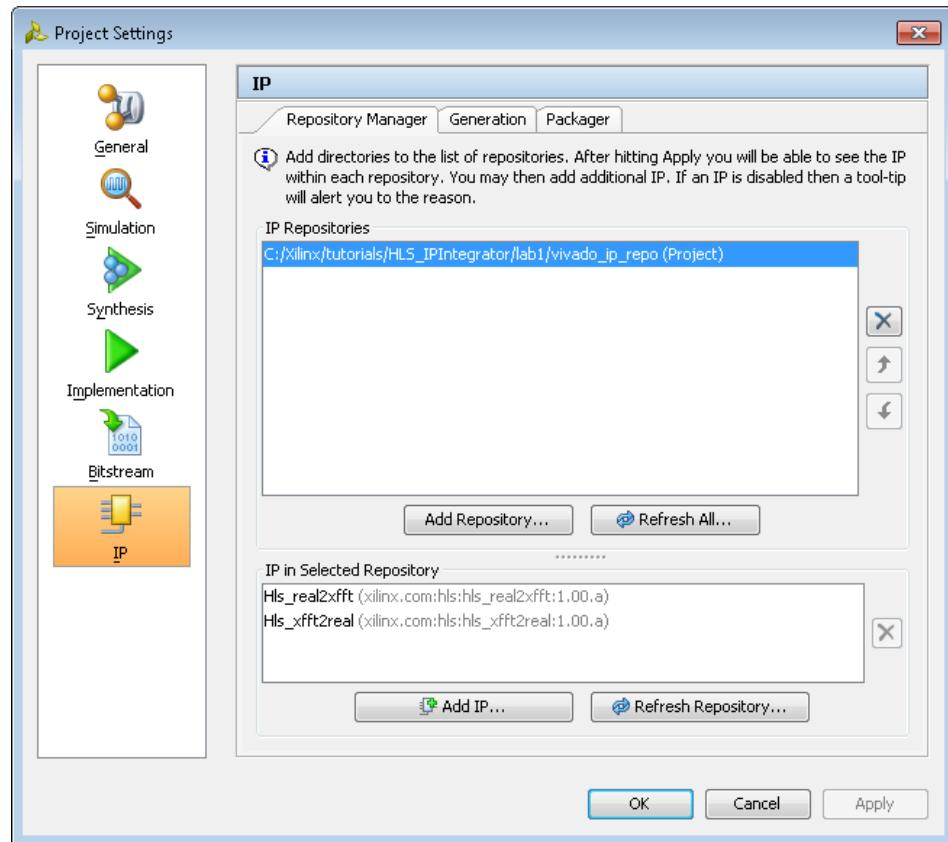

Figure 194 IP Repository with HLS IP
7. The new HLS IP should now show up in the IP Setting dialog (Figure 194).